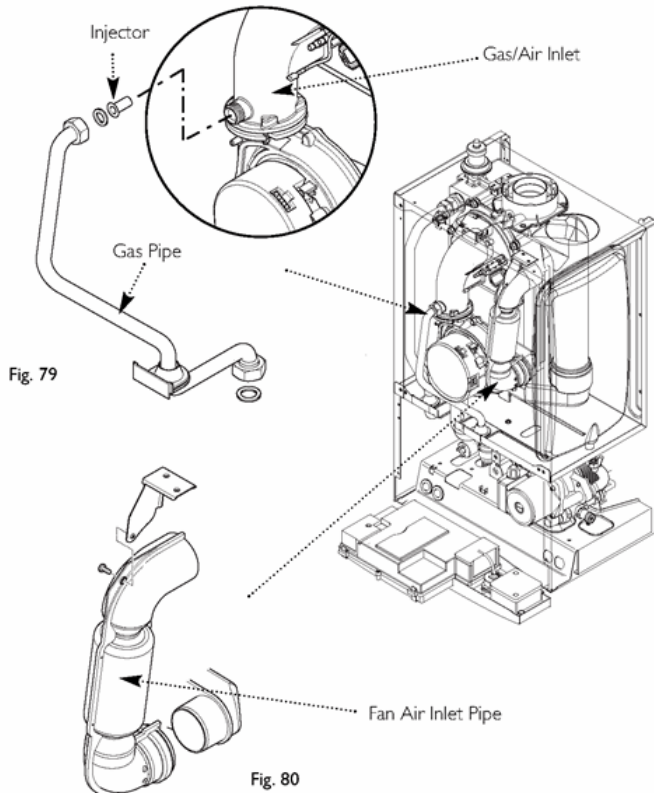

Fig. 79 & Fig. 80
1. Undo the nut on the gas pipe at the gas/air inlet (Fig. 79) and the gas valve. Remove the pipe, taking care not to lose the sealing washers. Also remove the injector.
14.4 Injector (Fig. 79)